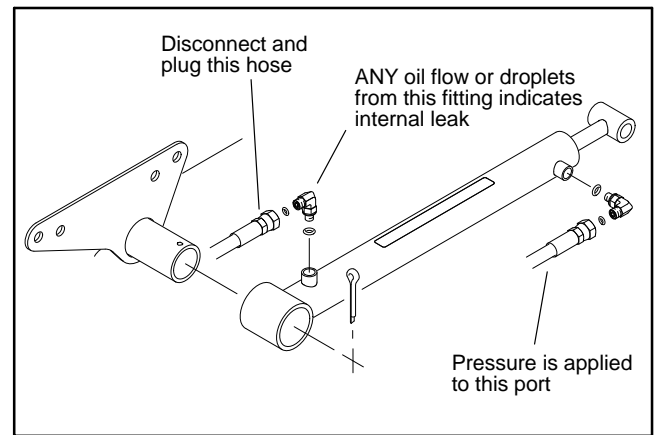

Figure 25
3. Disconnect hydraulic hose from base end of cylinder and install a steel plug with O-ring seal in the hose (Fig. 25). Clean any remaining oil from cylinder port.